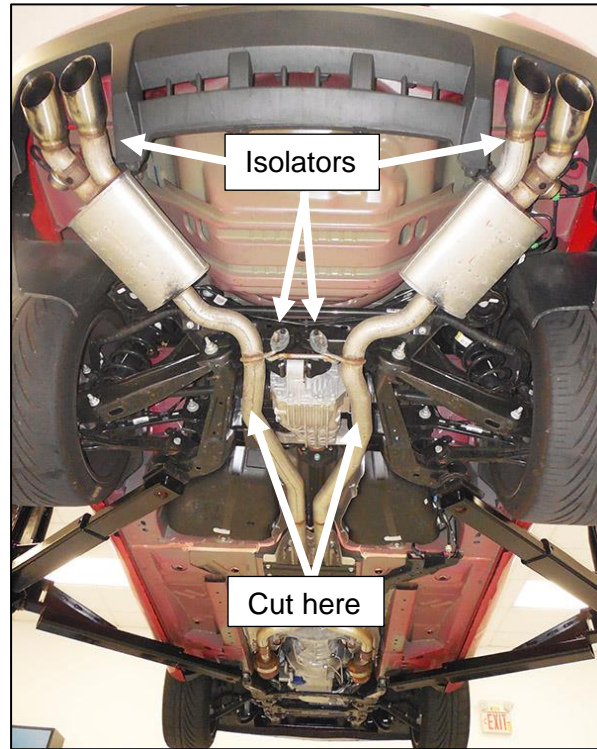

Figure 1
3. Identify the locations that will be cut in **Figure 1**.
9. Support the muffler assemblies and remove the isolators above each muffler assembly and the 2 isolators at the differential hangers (**Figure 1**). Remove the left and right muffler assemblies.